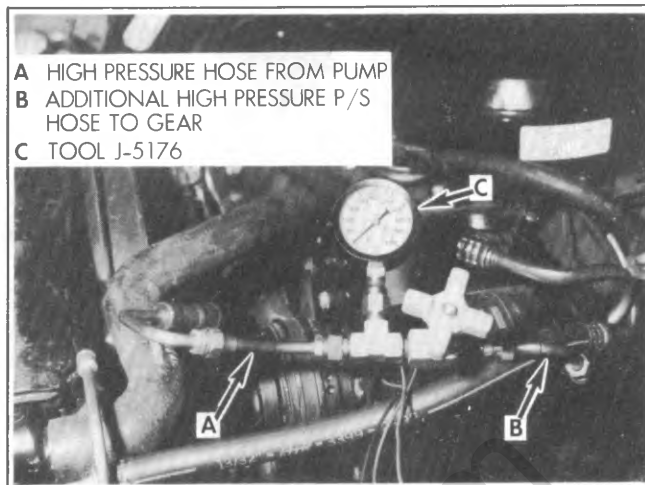

Fig. 3B-43--Checking Power Steering Pressures
1. With engine **NOT** running disconnect pressure hose from pump and install Tool J-5176 using a spare pressure hose between gauge and pump. Gauge must be between shut-off valve and pump (Fig. 3B-43), Open shut-off valve.